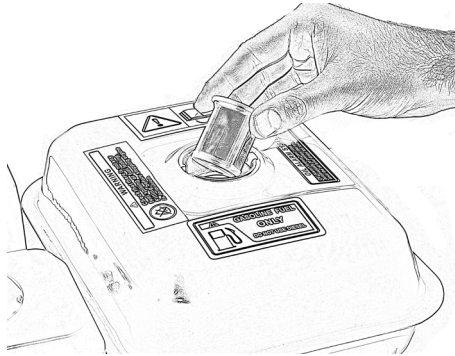

Figure 22
- Open the tank cap and remove the tank strainer, Fig. 22.